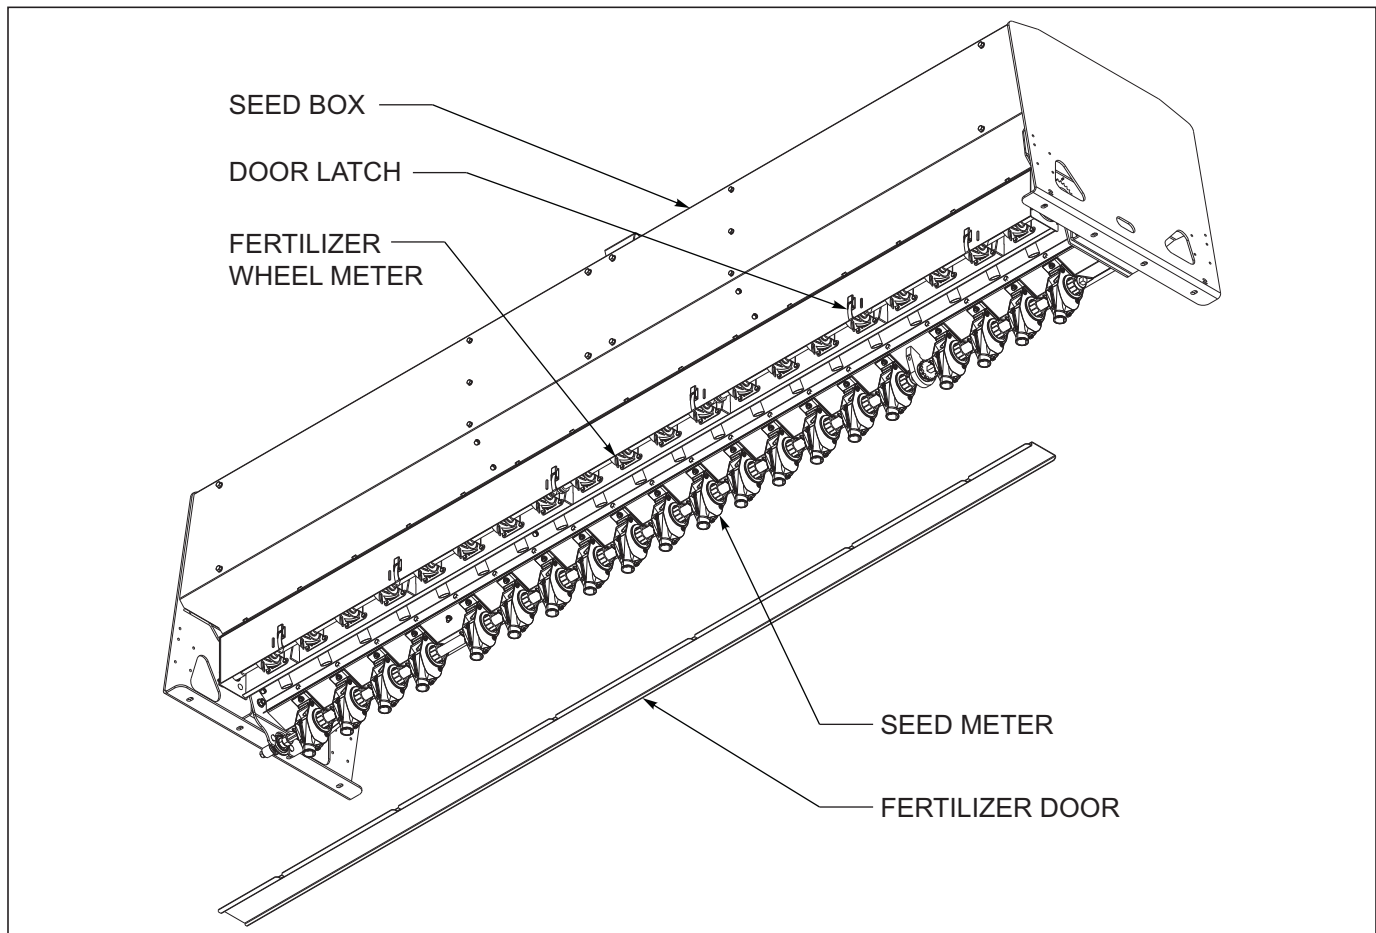

Figure 4-20: Fertilizer Box Clean Out
- The fertilizer meters may be accessed for maintenance or cleaning by removing the door located at the bottom of the fertilizer meter assembly (See Figure 4-20.)